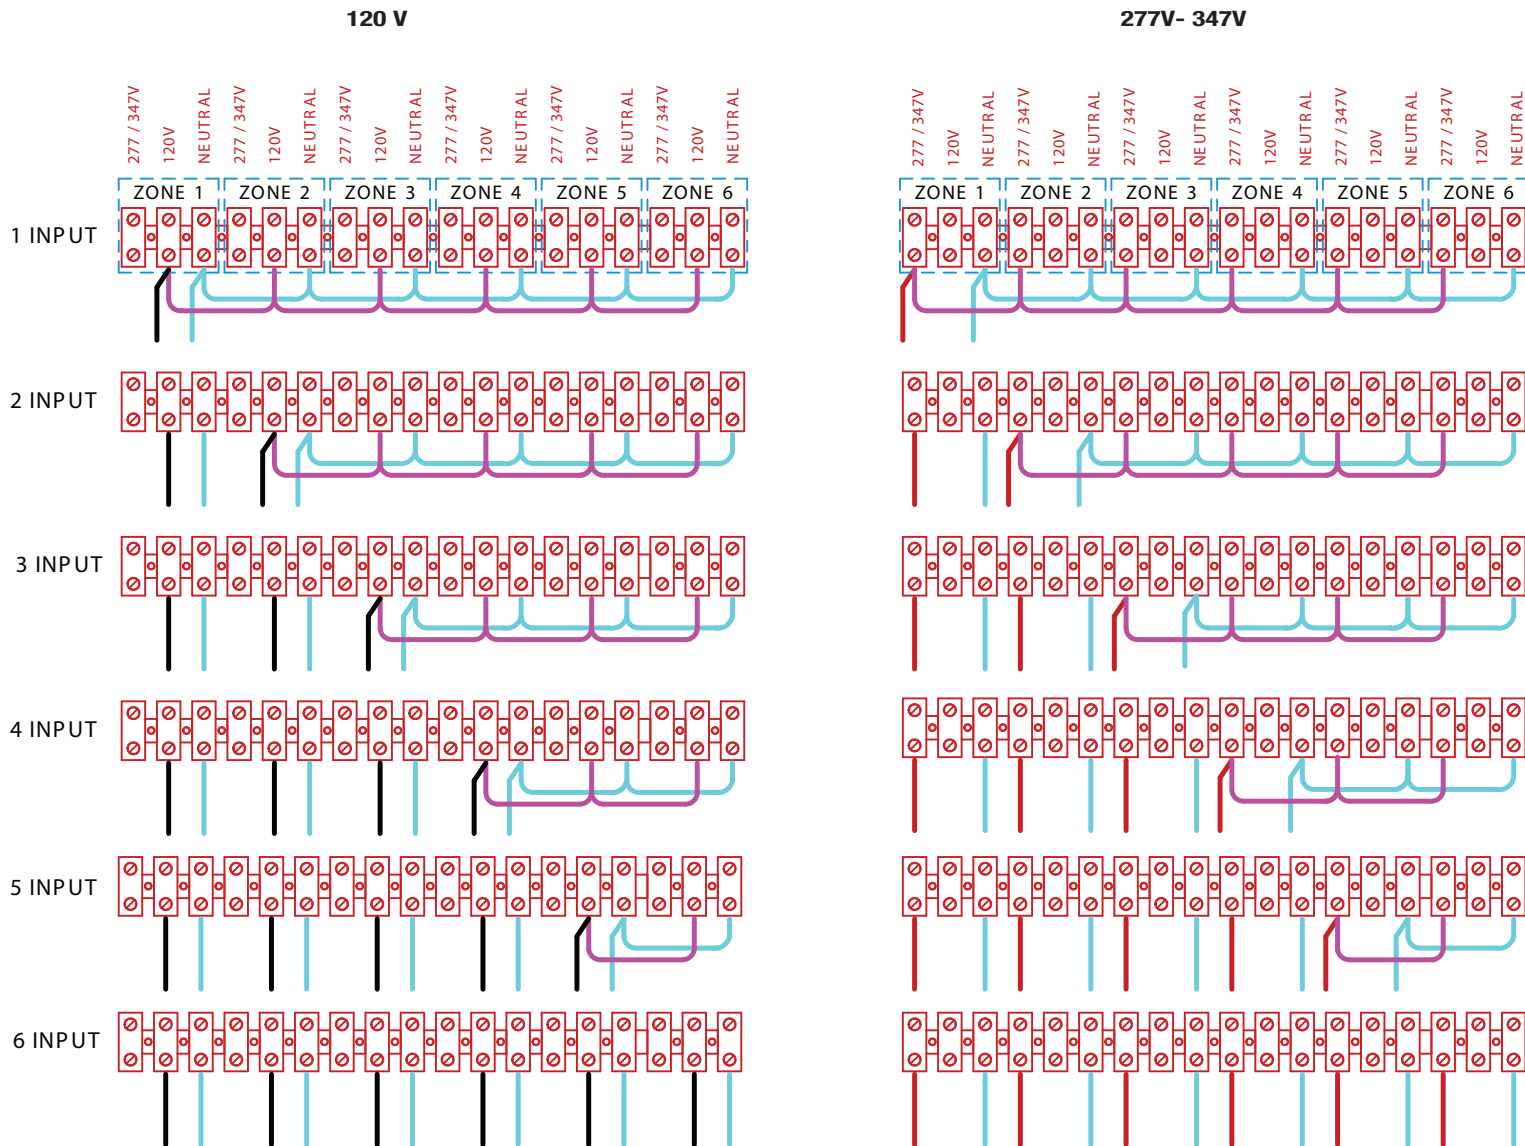

Fig. 2
**2 INSTRUCTIONS FOR ENSURING PROPER INPUT CONNECTIONS OF MONITORED LIGHTING CIRCUITS WITH JUMPERS (Fig. 2)**
**INSTRUCTIONS POUR ASSURER DES CONNEXIONS D'ENTRÉE CORRECTES DES CIRCUITS D'ÉCLAIRAGE SURVEILLÉS À L'AIDE DE PONTS (Fig. 2)**